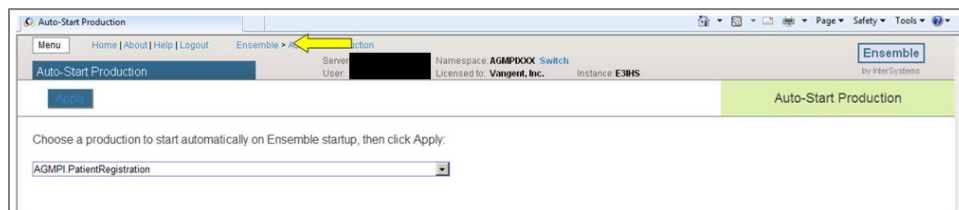

Figure 8-7: Auto-Start Production page after clicking **Apply** button
- Click **Ensemble** on the top of the page, as shown in Figure 8-7, to return to the Management Portal page.